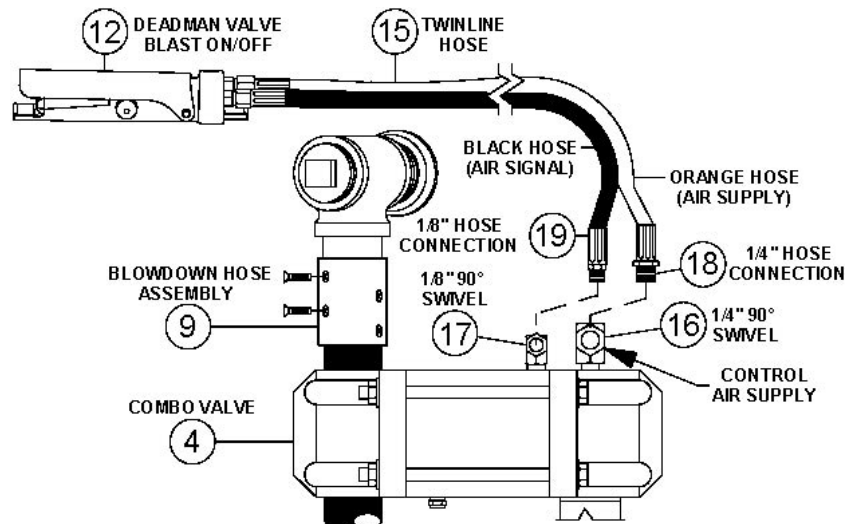

Figure 5.3 – Micro Valve Pneumatic Deadman Blast Control System
5.8.1. Pneumatic Deadman System: When the pneumatic deadman (#12) lever is pressed down, air supply from the orange hose of the twinline hose (#15) flows into the black hose. Air flows through the black hose to the signal port of the Combo Valve (#4) to open it and send air into the abrasive blaster and blast air hose. When the deadman lever is released the air signal is cut off and the Combo Valve is closed to shut off the supply air and depressurize the blaster through the blowdown hose assembly (#9). See Figure 5.3 and the drawings in Section 9.1 and 9.2.